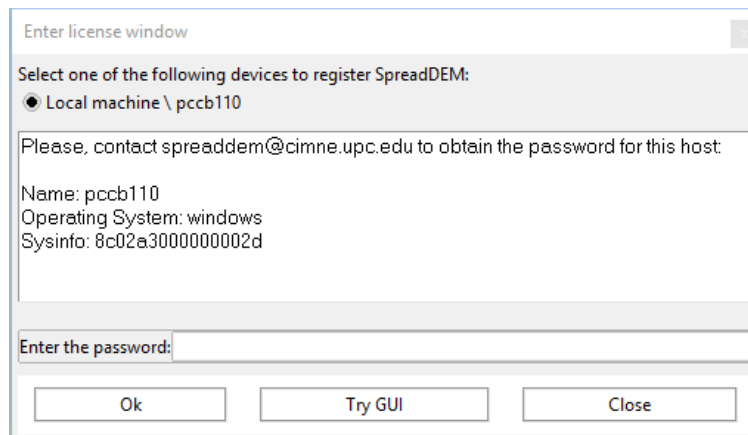

Figure 4. System information window.
2. After installing it and launching the executable, you will find a dialog box with the information of the system (Figure 4).